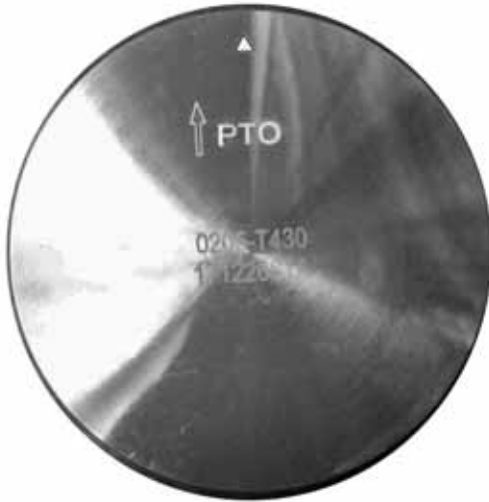

Figure 4-29: Piston Directional Markings (typical)
3. See Figure 4-29. Measure the top, middle and bottom of the cylinder bore at the X and Y axis.
1. See Figure 4-29. Measure the piston skirt outside diameter at 10 mm from the bottom of the piston skirt as shown, 90° from the piston pin.